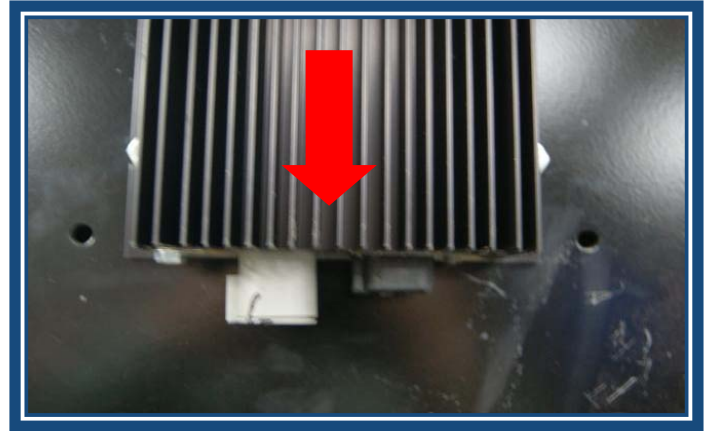

Figure 1
**Step 1:** Mount the Trail Charger on the back of the battery box using the supplied self-drilling sheet metal screws. (See Figure 1) The Trail Charger should be mounted about 1 ½" down from the top and just to the right of the grommet. The unit must also be mounted with the plug pointed down (6 o'clock). Note: Be sure that the screws will not interfere with the batteries in the box.